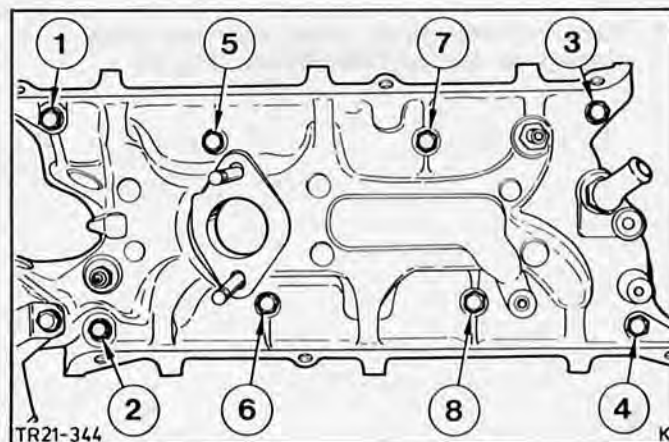

Fig.66. Tightening sequence - inlet manifold bolts.
60. Fit inlet manifold and tighten bolts to the specified torque in three stages as shown in the drawing in Fig.66.